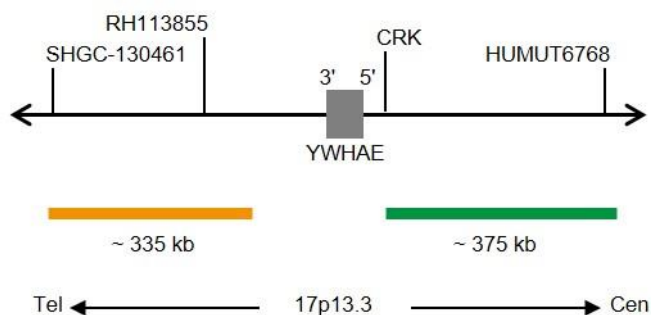

Fig. 1: SPEC YWHAE Probe map (not to scale)
- ZyGreen (excitation 503 nm/emission 528 nm) labeled polynucleotides (~10 ng/μl), which target sequences mapping in 17p13.3* (chr17:1,339,752-1,716,668) proximal to the YWHAE breakpoint region (see Fig. 1).
- ZyOrange (excitation 547 nm/emission 572 nm) labeled polynucleotides (~4.5 ng/μl), which target sequences mapping in 17p13.3* (chr17:791,171-1,124,746) distal to the YWHAE breakpoint region (see Fig. 1).